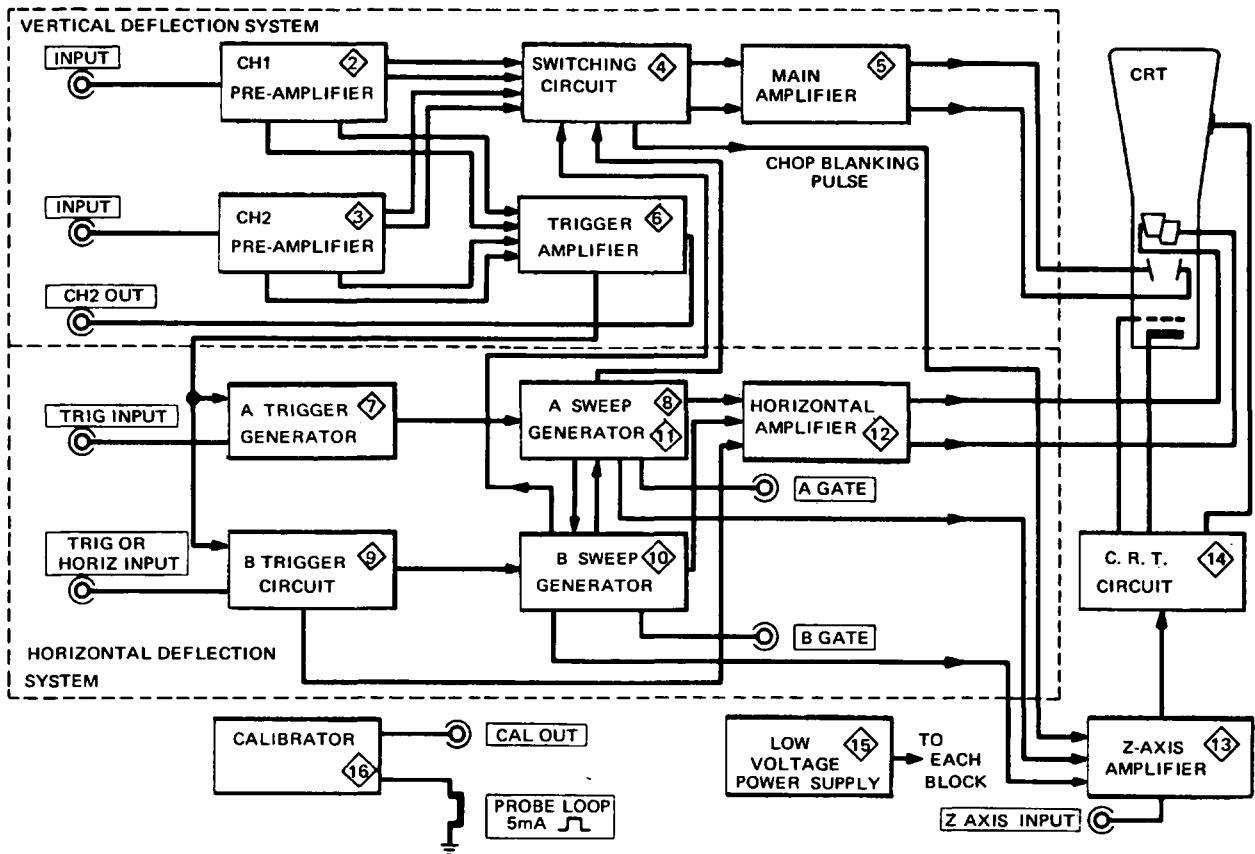

Figure 3-1 Overall Block Diagram
a. **General.** The following discussion makes reference to the schematic diagrams in Section 6. These diagrams are also referenced in the overall block diagram, Figure 3-1.